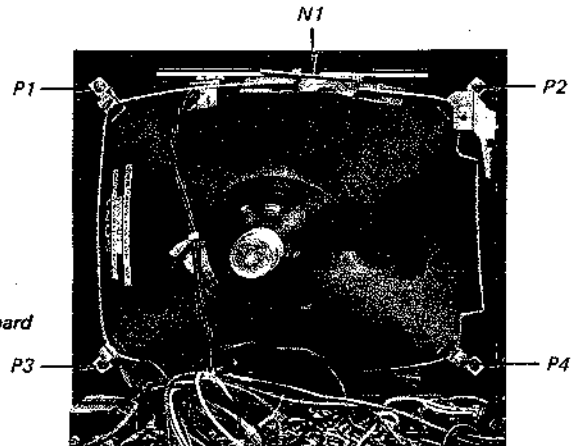

Fig. 2-22.
8. Loosen a screw labeled N1 in Fig. 2-22.
9. Remove the four screws labeled P1 - P4 in Fig. 2-22.